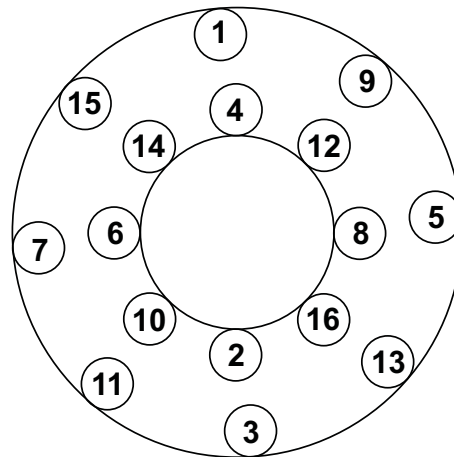

Figure 14 : Wear plate bolt tightening sequence
4.5.7 For each wear plate being replaced, follow the tightening sequence shown in **Figure 14** for the first 16 screws. The remaining screws may be tightened in any reasonable crosswise pattern. See Table 11 for tightening torque values.